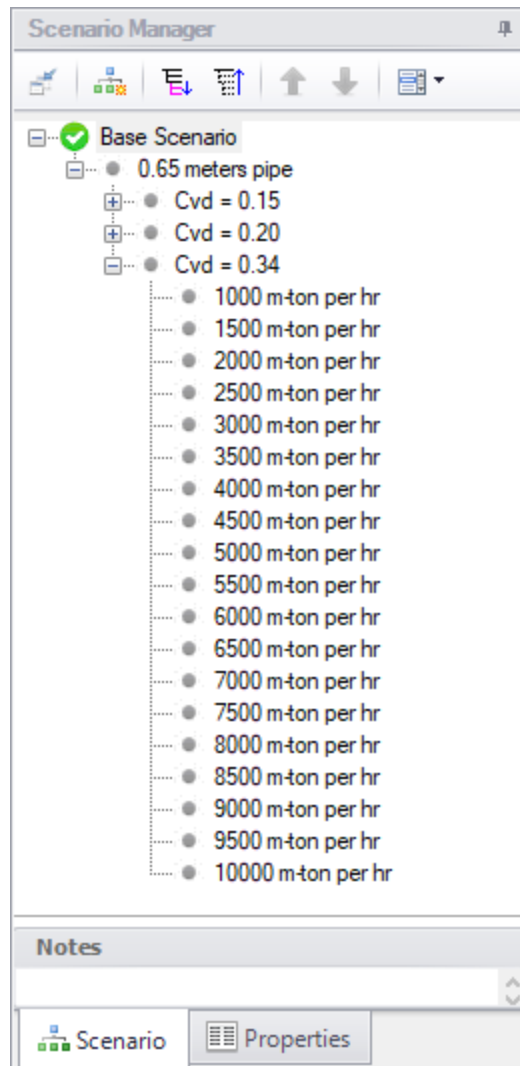

Figure 7: The Scenario Manager on the Quick Access Panel can be used to clone scenarios to easily create additional constant solids concentration cases
5. There are now three groups of scenarios, each for a different solids concentration. Each of the three concentrations will have a set of scenarios for a range of different through puts, as shown in Figure 7.